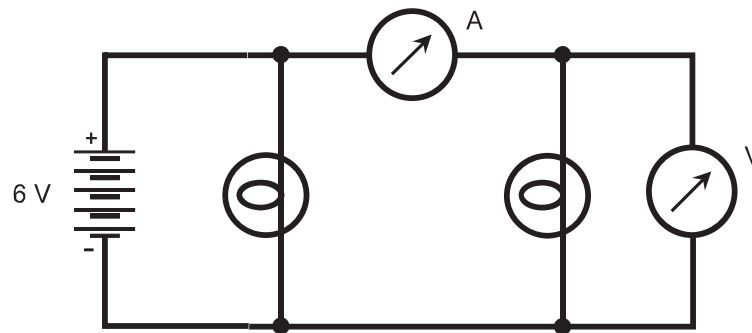

Fig. 4-18. Illustration for Quiz Questions 1 through 5.
1. Refer to Fig. 4-18. The battery supplies 6 V. Suppose each of the lamps in the circuit has a resistance of $120\ \Omega$. What is the resistance of the two lamps together, connected in parallel?
2. Refer to Fig. 4-18. The battery supplies 6 V. Suppose each of the lamps in the circuit has a resistance of $120\ \Omega$. What is the ammeter reading?
3. Refer to Fig. 4-18. The battery supplies 6 V. Suppose each of the lamps in the circuit has a resistance of $120\ \Omega$. What is the current drawn from the battery?
4. Refer to Fig. 4-18. The battery supplies 6 V. Suppose each of the lamps in the circuit has a resistance of $120\ \Omega$. What is the voltmeter reading?
5. Refer to Fig. 4-18. The battery supplies 6 V. Suppose each of the lamps in the circuit has a resistance of $120\ \Omega$. If the left-hand bulb blows out, leaving an open circuit in its place, what will happen to the ammeter reading?